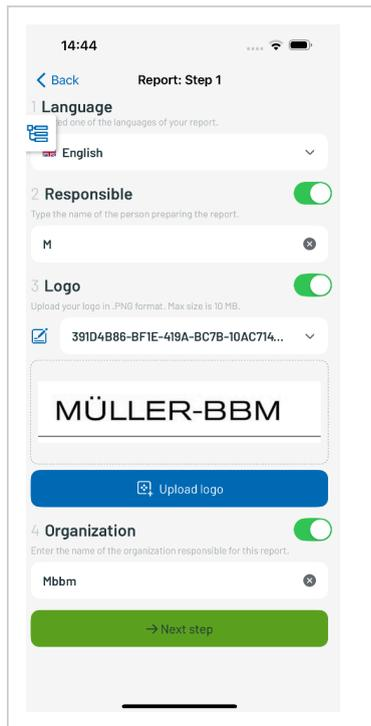

Figure 16: Report generator step 1.
- By clicking on Report 📄 in the upper right corner, a report is generated in the next steps. In the first mask (Report: Step 1, Figure 16), recurring details for the report are entered. These are directly available on the next call and do not have to be selected again. The language in which the report is created can be selected (English, German, Japanese, Portuguese). Additionally, the responsible person for the measurement can be entered. Under "📷 Upload Logo" a logo can be selected from the photo library or taken with the camera. Next, the organization can be entered.